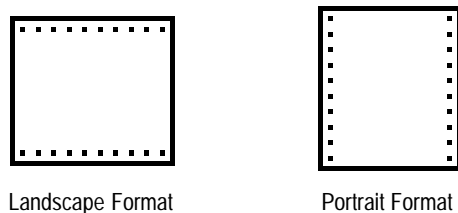

Figure 3–18: Hardcopy Formats
3. Press **SHIFT HARDCOPY MENU** → **Layout** (main) → **Landscape** or **Portrait** (side) (see Figure 3–18).